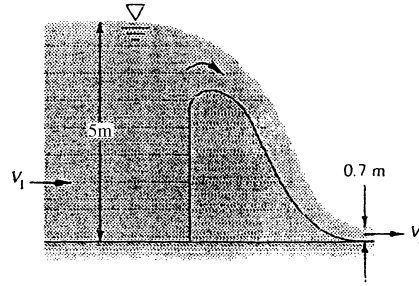

Fig. P3.176
**3.176** In the spillway flow of Fig. P3.176, the flow is assumed uniform and hydrostatic at sections 1 and 2. If losses are neglected, compute (a)  $V_2$  and (b) the force per unit width of the water on the spillway.